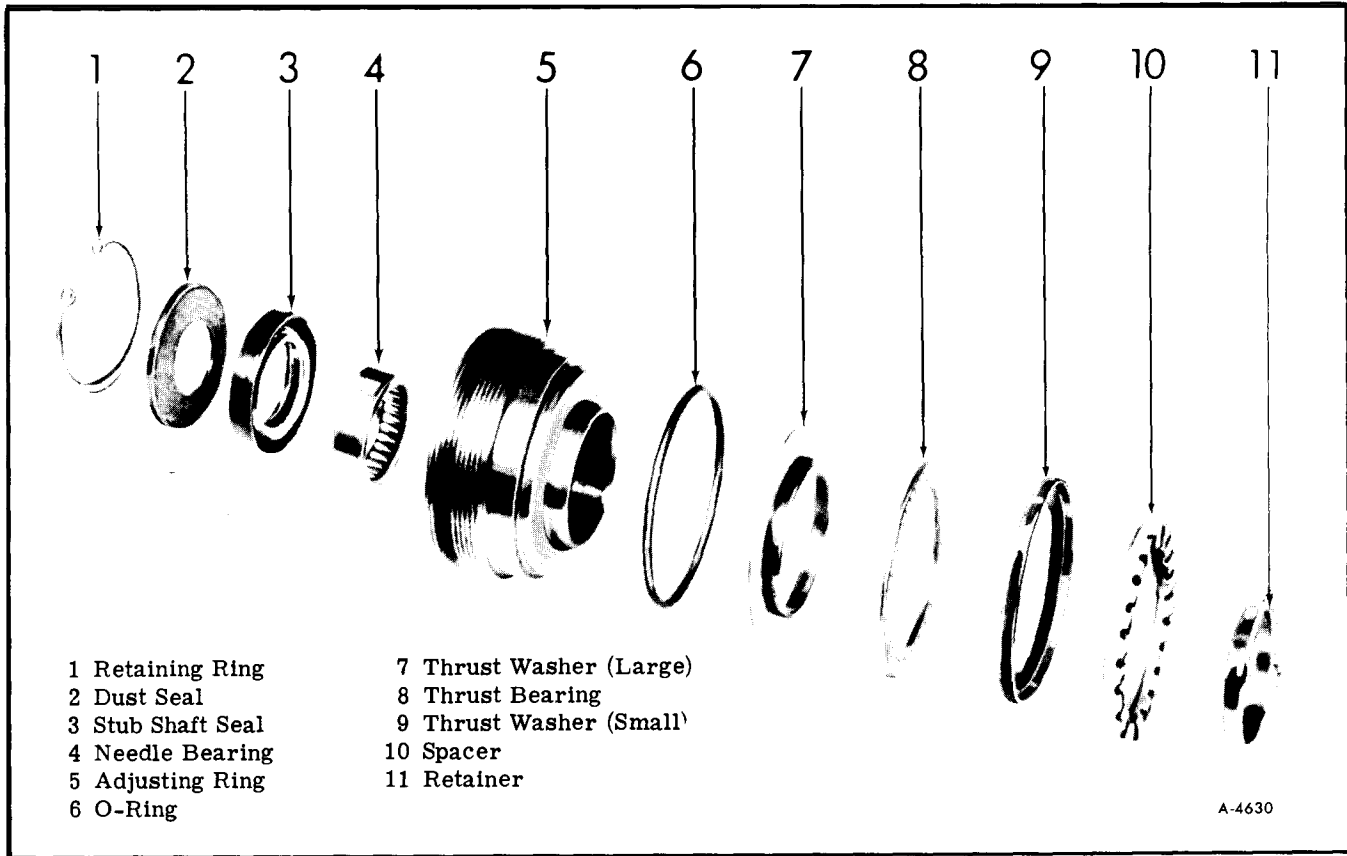

Figure 30—Adjuster Plug (Exploded View)
1. If the oil seal ONLY is to be replaced, and not the needle bearing, install the adjuster plug (figure 30) loosely in the gear housing. Remove the retaining ring with Internal Pliers J-4245. With a screw driver, pry the dust seal and oil seal from the bore of the adjuster plug being careful not to score the seal bore. Discard the oil seal.